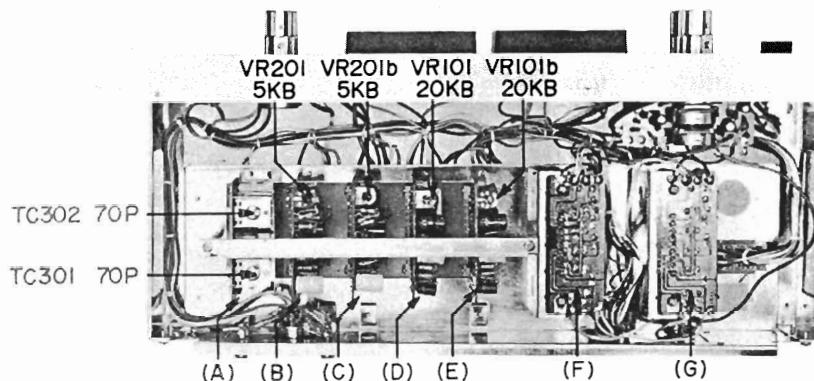

Fig. 16
- 4) Adjust the Playback Amp. P.C. Board playback level adjustment semi-fixed resistor VR10I 50 kB (left ch.) and VR10Ib 50 kB (right ch.) shown in Fig. 16 so that the High Sensitivity V.T.V.M. indication is 4 dB (1.228V).
- 5) Set the Monitor Switch to SOURCE position and adjust Recording Amp. P.C. Board recording level adjustment semi-fixed resistors VR201 5 kB (left ch.) and VR201b 5 kB (right ch.) shown in Fig. 16 to obtain a Line output level of 4 dB.
- 3) Under these conditions, adjust OSC. P.C. Board frequency response adjustment trimmer condensers TC301 70P (left ch.) and TC302 70P (right ch.) shown in Fig. 16 to obtain an equally flat frequency response at 1,000 Hz and 10,000 Hz.